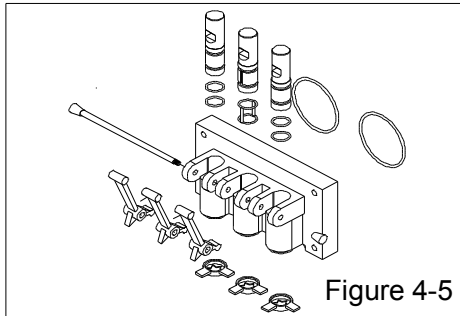

Figure 4-5
G. Install the dispensing door on the freezer (Figure 4-5, 4-6).